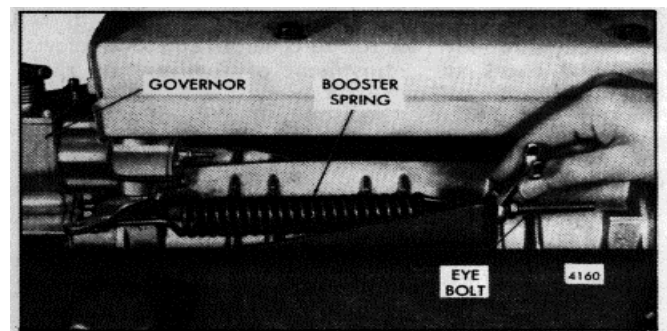

Fig. 14. - Adjusting Booster Spring
2. Refer to Fig. 14 and loosen the nut on the booster spring retaining bolt on the governor speed control lever. Loosen the locknuts on the eyebolt at the opposite end of the spring.